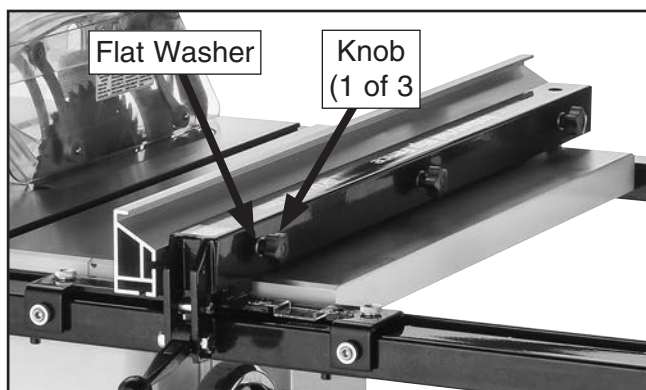

Figure 71. Location of knobs and flat washers securing fence to fence tube.
2. Unthread (3) knobs and (3) flat washers securing fence face to fence tube shown in **Figure 71**, then remove fence.